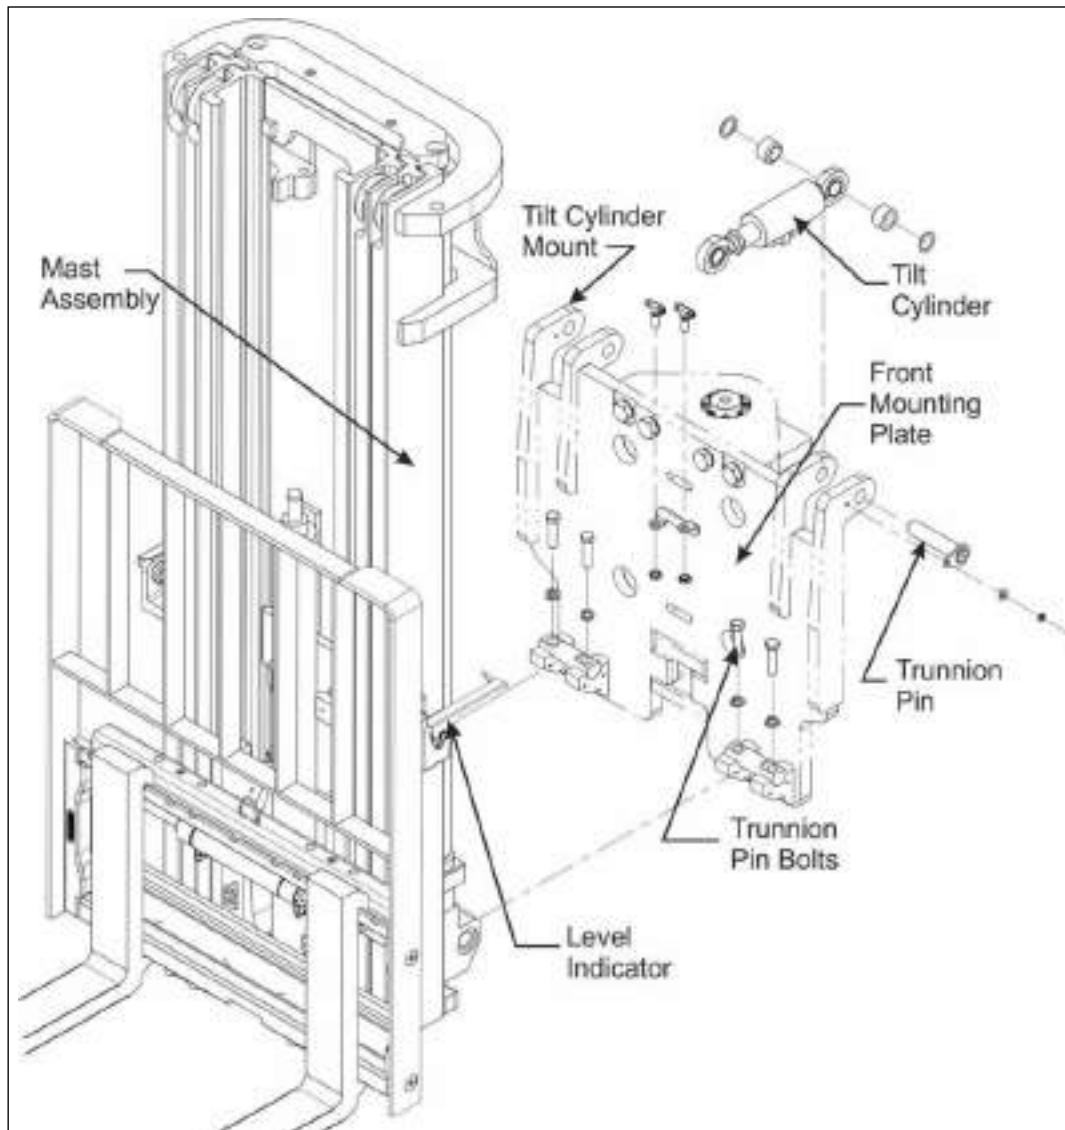

Figure 3-6: Tilt, Trunnion and Mast Assemblies
10. Disconnect the two tilt cylinders from the mast - see "Tilt Cylinders," beginning on page 3-20. See **Figure 3-6**.
11. With the tilt cylinders disconnected from the mast, move the overhead crane forward slightly to provide a gap between the mast and the front mounting plate. See **Figure 3-6**.
12. Remove the trunnion pin bolts (5/8"-11) and hardware. See **Figure 3-6**.
1. See Figure 3-6 Follow instructions shown here: If the cylinder is being removed, disconnect the two hoses from the bulkhead fitting prior to removal from the cylinder. The hose is fitted directly into the cylinder. Cap and plug the hoses and cylinder ports. Also tag the hoses for identification. Have rags handy for spills.